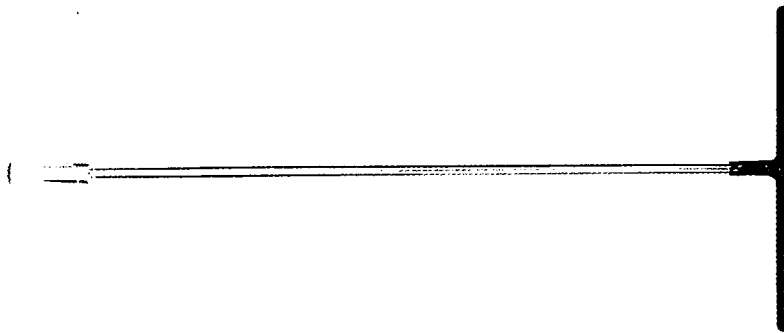

Figure 1
1. T TYPE BOX DRIVER #859C35802 (Figure 1)